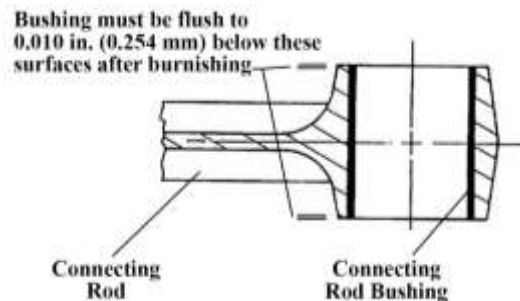

Figure 35
- H. Examine the bushing after burnishing to make sure the bushing is flush to 0.010 in. (0.254 mm) below the connecting rod surface (Figure 35) on both sides of the connecting rod.